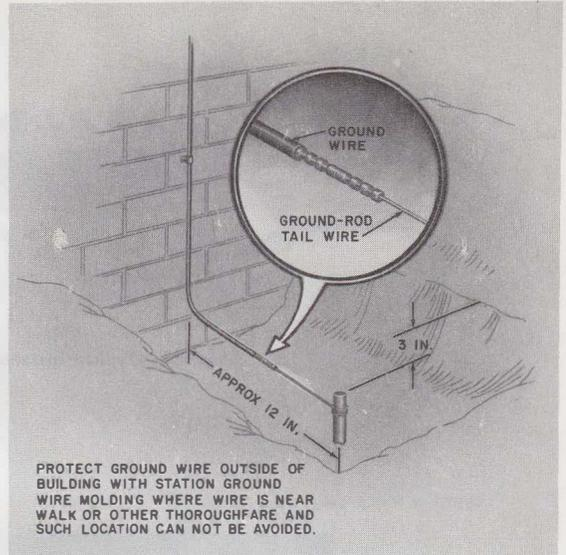

Fig. 74—Ground Rod Installed Near Wall
- (c) Approximately 12 inches from outside walls (Fig. 74).